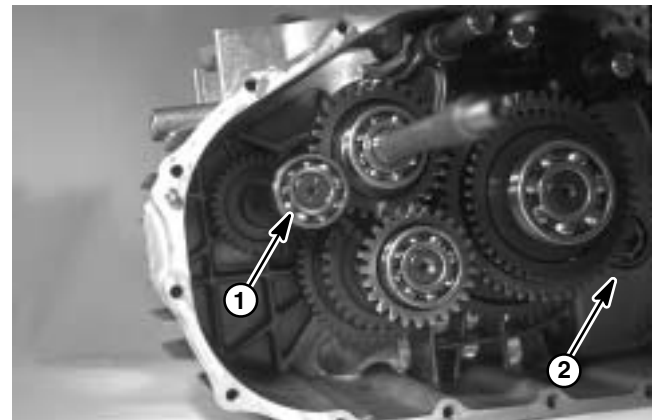

Figure 30
8. **On 4WD units**, remove front drive shaft and 41T gear from the gear case. Remove bearings from gear case (see Item 2 of Fig. 30) and center plate.